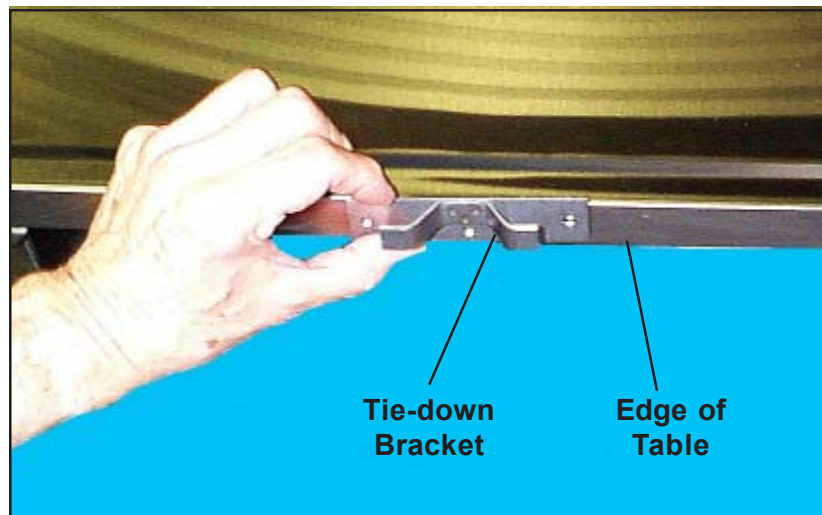

Figure 6. Holding Tie-down Bracket to Table Edge
2. Hold a single tie-down in place (Figure 6), and mark the centers of the three holes on the table edge. The single, center hole should be on the bottom.